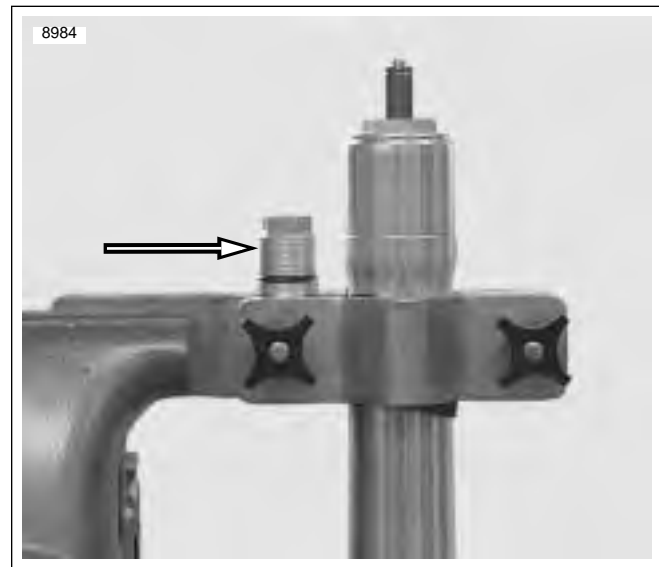

Figure 2-68. Removing Preload Adjuster
4. See Figure 2-68. Remove preload adjuster by turning counterclockwise.